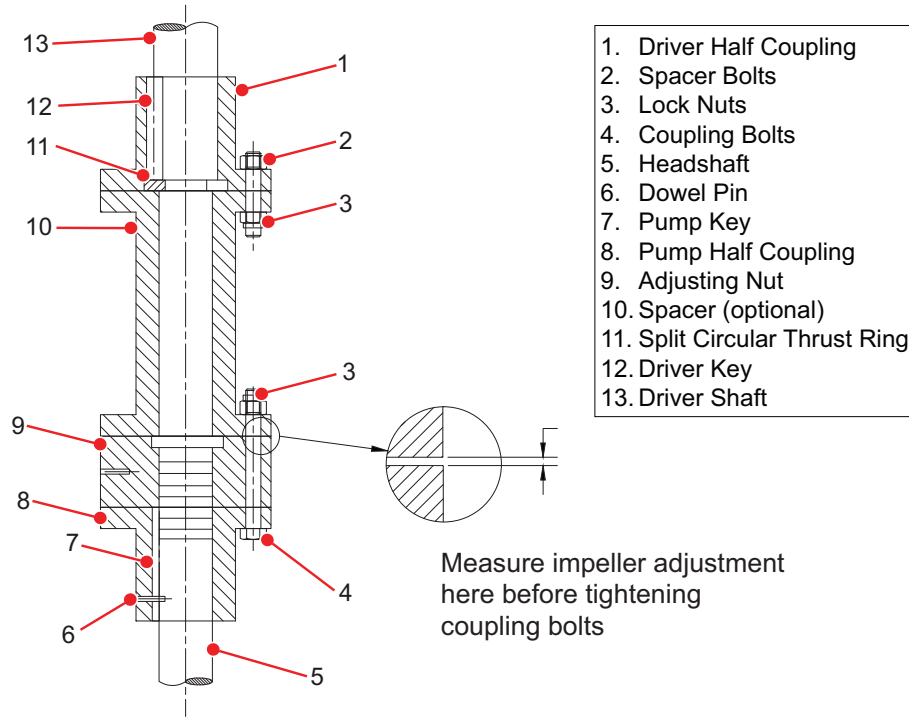

Figure 5-7: Adjustable Flanged Coupling for Solid Shaft Drivers
13. Thread the adjusting nut up until there is 1/8" gap between the nut and the spacer or driver half coupling (refer to Figure 5-7 on page 32).
3. Thread the adjusting nut down until proper impeller adjustment as outlined in “Impeller Adjustment - General” on page 29 can be measured between the adjusting nut and spacer or driver half coupling as shown in Figure 5-7 on page 32.